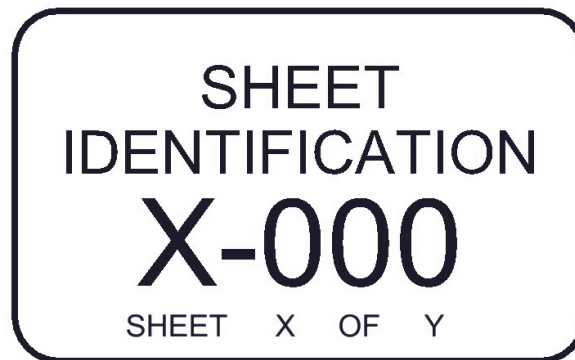

Figure 3-6. Sheet identification block.
**Sheet identification block.** The sheet identification block (Figure 3-6) contains the sheet identifier. This sheet identifier is composed of the discipline designator, the sheet type designator, and the sheet sequence number described in the section, “Electronic Drawing File Naming Conventions” (Chapter 2). The “number of sheets” listing is optional and can contain either the total number of sheets for the entire project drawing set or the number of sheets for that particular discipline designator.